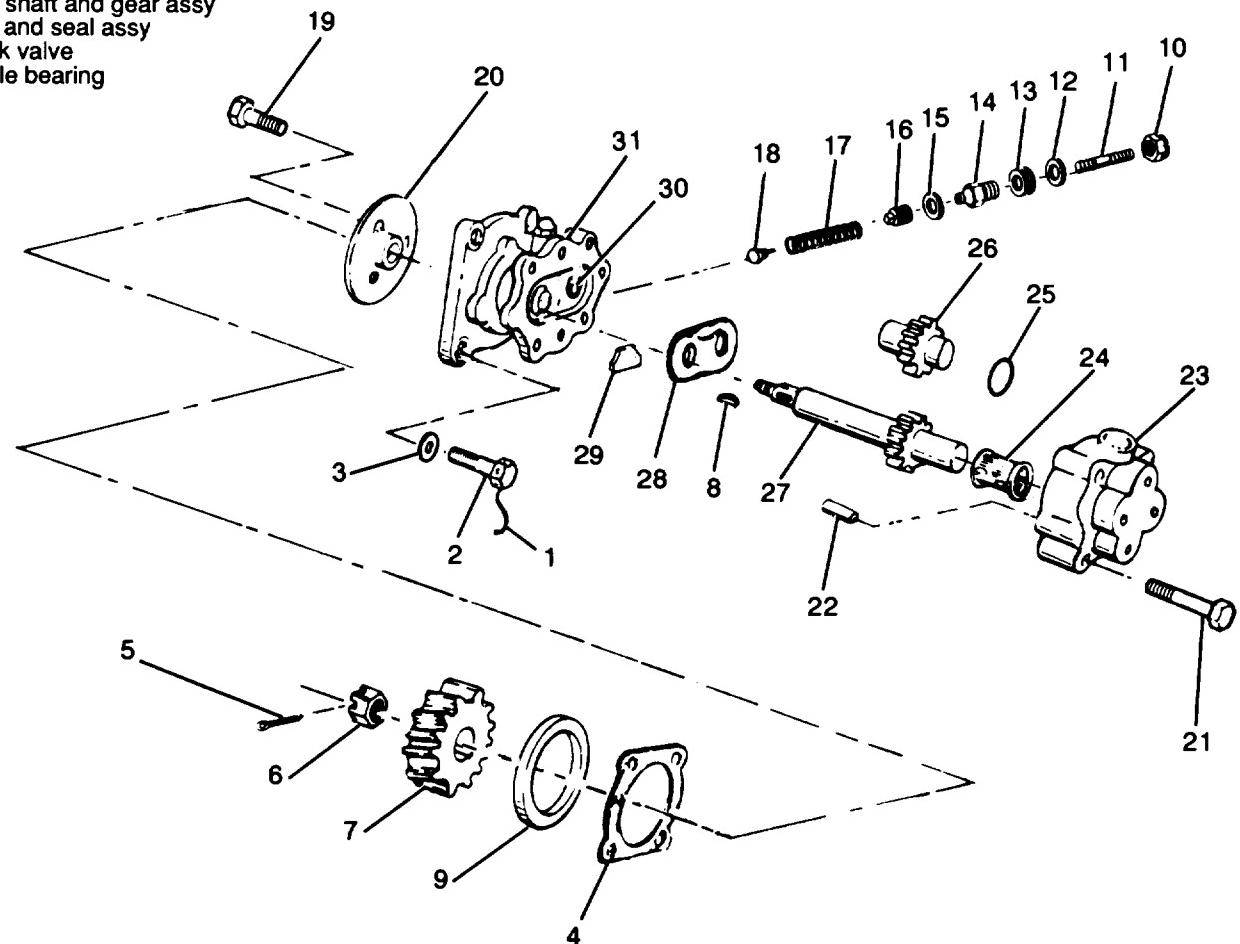

Figure 3-34. Hydraulic Pump Assembly, Exploded View
- (1) Refer to the Operator and Unit Maintenance Manual and drain the hydraulic sump.
- (2) Remove hydraulic lines and fittings from hydraulic pump assembly.
- (3) Remove lockwires (1, figure 3-34), screws (2) and flat washers (3) to remove hydraulic pump assembly and gasket (4). Discard gasket.
- (1) Install hydraulic pump assembly on a suitable test stand and provide a means of rotating at approximately 600 RPM.
- (2) Connect a hydraulic line to pump assembly inlet.
- (3) Connect a hydraulic line equipped with a pressure gauge, and a restriction valve to the pump assembly outlet.
- (4) Operate pump at approximately 600 RPM.
- (5) Close restriction valve until pressure gauge reads 320 +10 PSI. If  $320 \pm 10$  PSI is not obtainable, loosen locknut and adjust pressure relief valve screw until  $320 \pm 10$  PSI is reached.
- (6) Slowly close the restriction valve while observing the pressure gauge. The pressure should drop. If not, continue to adjust pressure relief valve screw until pressure does drop.
- (7) Loosen locknut and adjust pressure setscrew (11, figure 3-34) until pressure gauge indicates  $320 \pm 10$  psig.
(8) Tighten locknut and remove hydraulic pump assembly from test hookup.